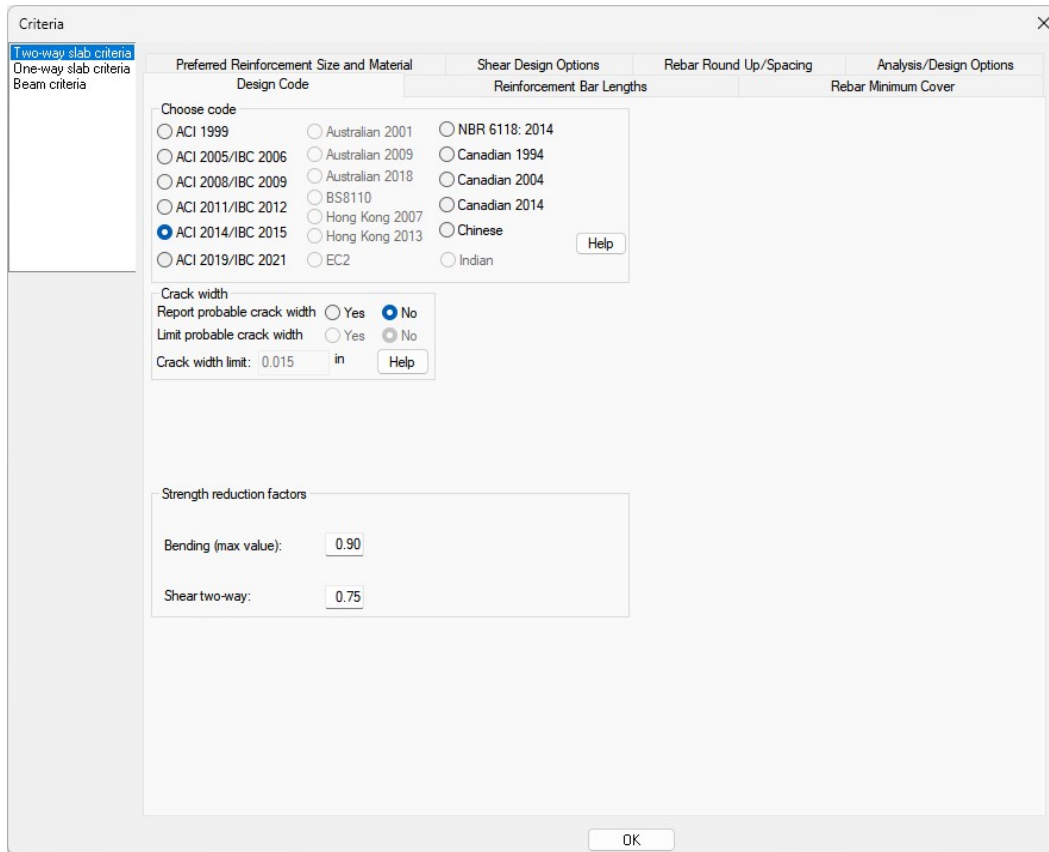

Figure 2.2-1 – Criteria: Design Code tab
- Go to *Criteria* → *Design Criteria* and click on the **Design Code**  icon. This will open the *Criteria* window from **Figure 2.2-1**.